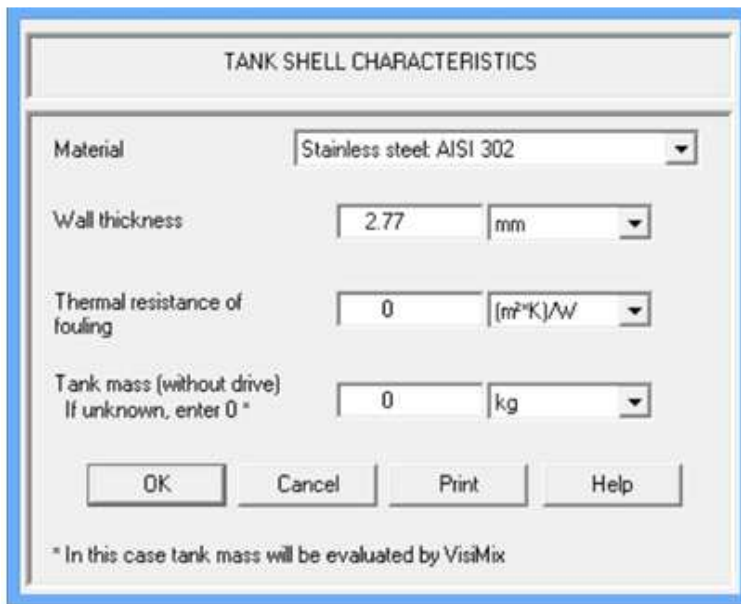

Figure 8.
4.1. Equivalent height of half-pipe jacket (Fig.8) corresponding to heat transfer area 7 sq.m is
4.2. The equivalent thickness of the tank wall for heat transfer calculations (Fig. 8) has to be equal to thickness of the coil pipe - 2.77 mm.